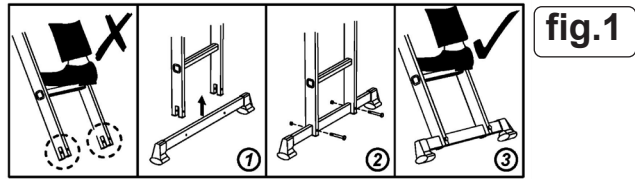

fig.1
- 4.1. Bolt the foot cross members to the bottom of each ladder. The feet are already attached to the cross members. Refer to fig.1.
- 4.2.6. Bolt the foot cross members to the bottom of each ladder. The feet are already attached to the cross members, fig.1.